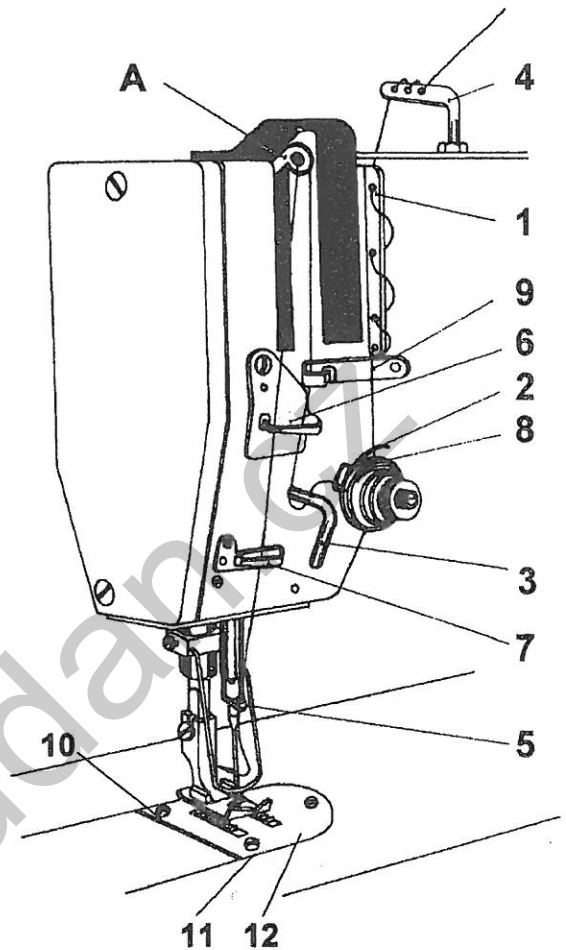

Fig. 5
### 9. To thread the upper thread (Fig. 5)
**26. To adjust the stationary knife for correct thread trimming (Fig. 5)**